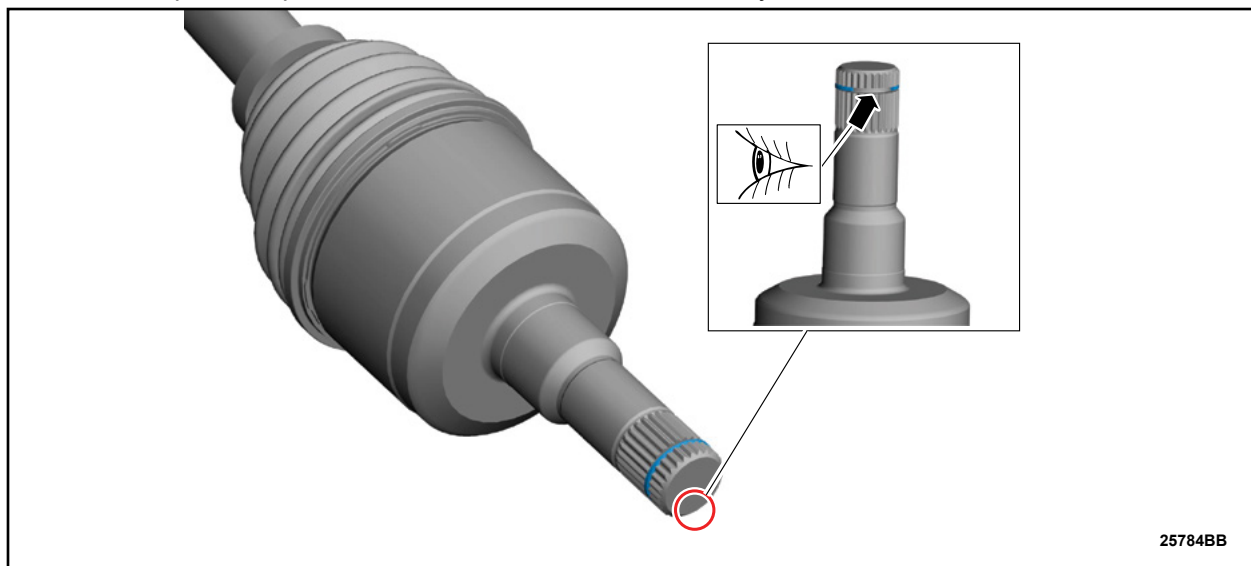

**FIGURE 34**
37. Using the special tools, install a *new* LH halfshaft seal. See Figure 34.